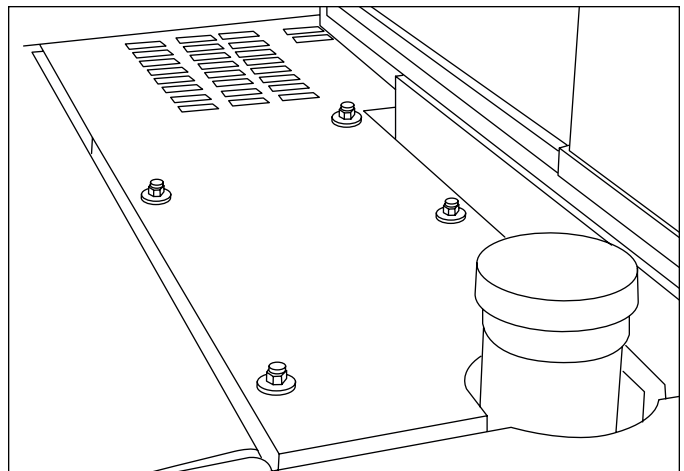

Figure 4-13. Hydraulic Oil Cap Access Panel
5. Remove access panel located above hydraulic oil reservoir (Figure 4-13) to expose the hydraulic oil filler cap.
3. Remove access panel located above hydraulic oil reservoir (Figure 4-13) to expose the hydraulic oil filler cap.